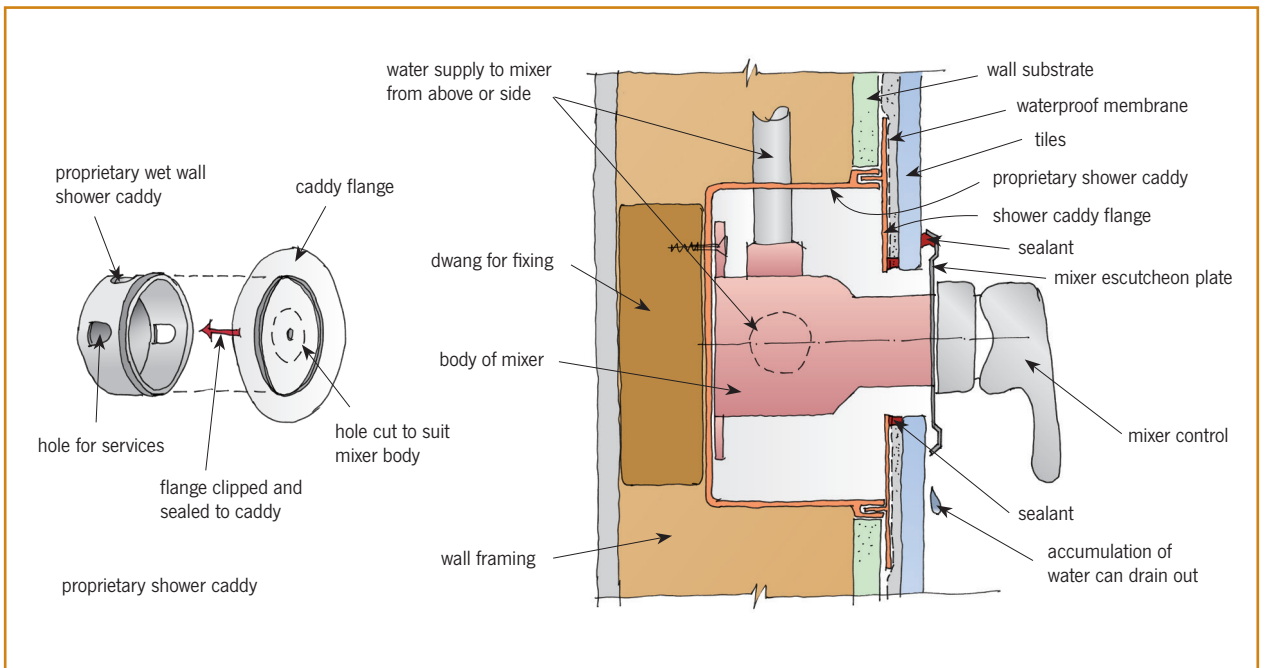

Figure 6. Shower mixer installation detail.
9.1.1 Make the shower mixer penetration through the wall lining before the membrane is applied. Figure 6 shows a detail for the mixer installation. Correct sealing is crucial.
9.1.2 A two-piece, preformed plastic wall caddy is available that holds a shower mixer and makes a seal in a wet wall lining as an extra line of defence against leaks (Figure 6). Any leaks are prevented from entering the wall cavity and are discharged down the wall lining.